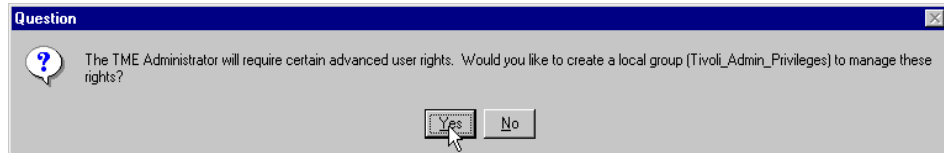

Figure 15. Advanced user rights
5. Press **Yes** to add advanced user rights to the TME Administrator as shown in Figure 15.